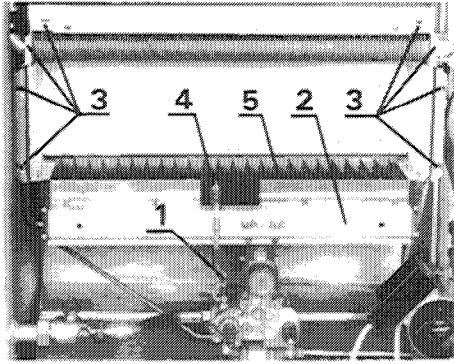

Fig. 18
- a) Slacken screw (1, fig. 18) retaining pilot tube and lift out tube.
- c) Remove combustion chamber front cover by unscrewing 8 screws (3, fig. 18).
- d) Disengage thermocouple and electrode support bracket (4, fig. 18) by sliding forward and lifting up.
- h) Lift out burner head assembly (5, fig. 18).